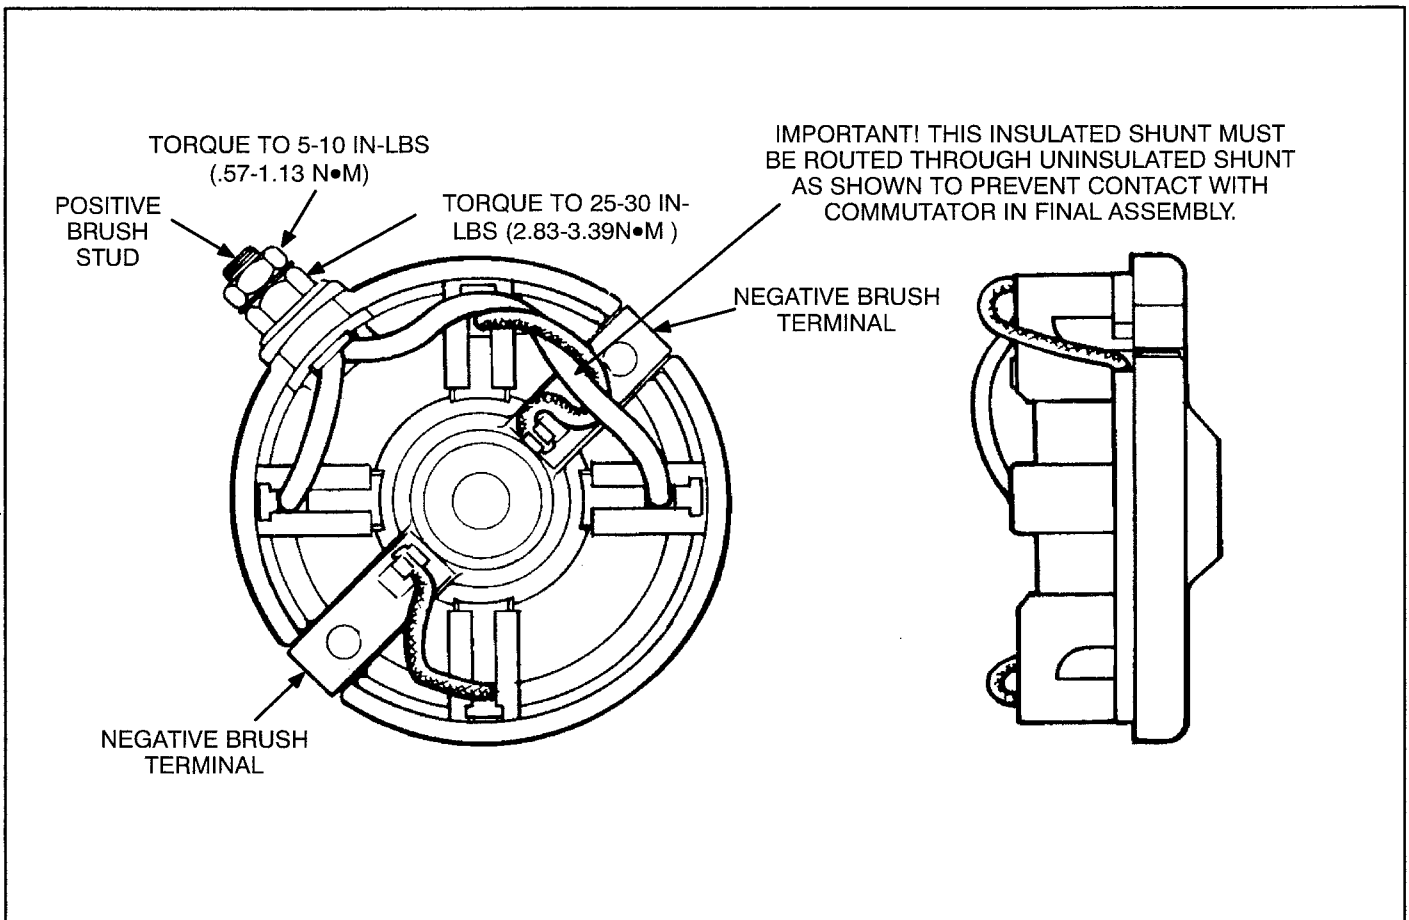

FIGURE 8-21. BRUSH ENDCAP
2. Push the negative brush terminals over the through-bolt holes on the brush endcap (Figure 8-21).